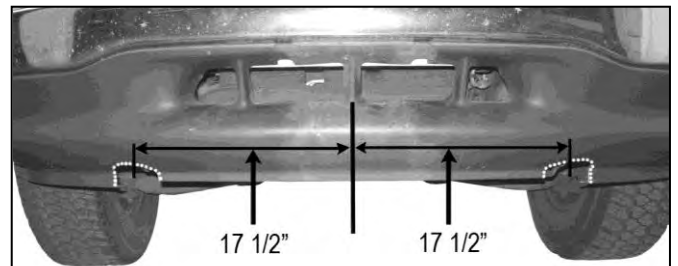

Fig 5
- c. Cut a 3" diameter round hole out of each marked location, 2" up from the bottom of the bumper. Trim the opening into a "U" shape, **(Figure 5)**. **IMPORTANT!** Use the Bull Bar to determine exact area to be cut from air dam. Only remove material required to clear the Bull Bar. **NOTE:** It may be easier to remove the lower bumper cover to cut for clearance once properly marked.